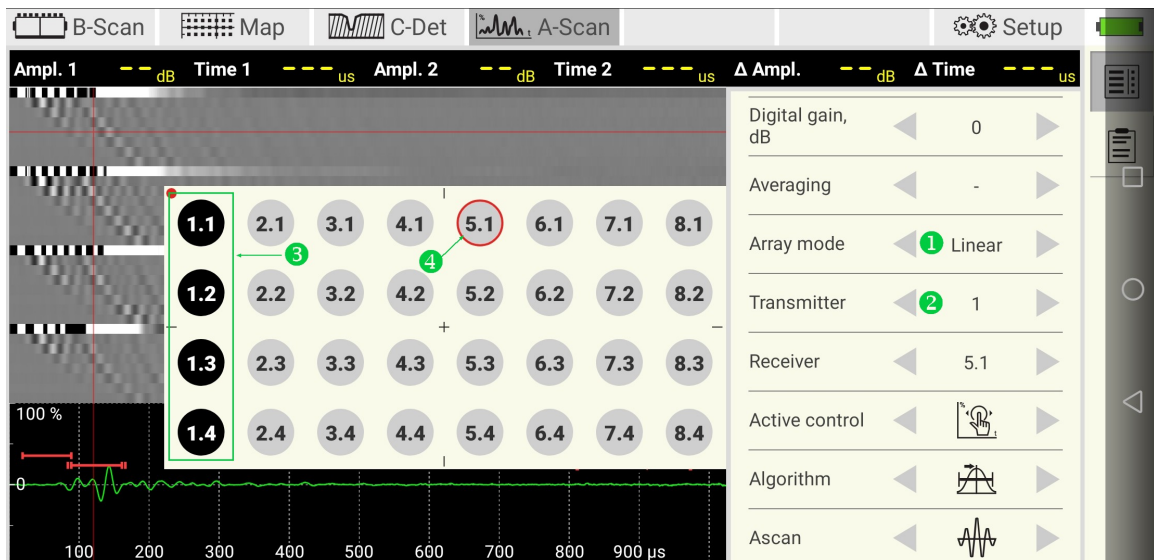

Figure 11: Selecting the group of transmitters
In the `linear` array mode ❶, the operator can select a group of four transmitting transducers. Tap on the `transmitter` control ❷. Select the group (or column) of transmitters in the rising dialog. Transmitters become black ❸. The receiver ❹ has a red border (Figure 11).